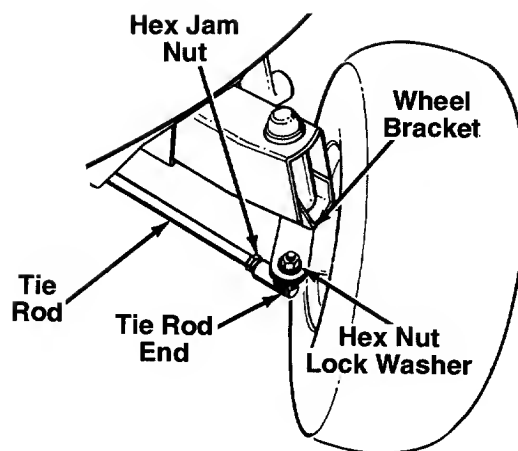

FIGURE 15.—Units with adjustable tie rods
1. Remove the hex nut and lock washer, and drop the tie rod end from the wheel bracket. See figure 15.